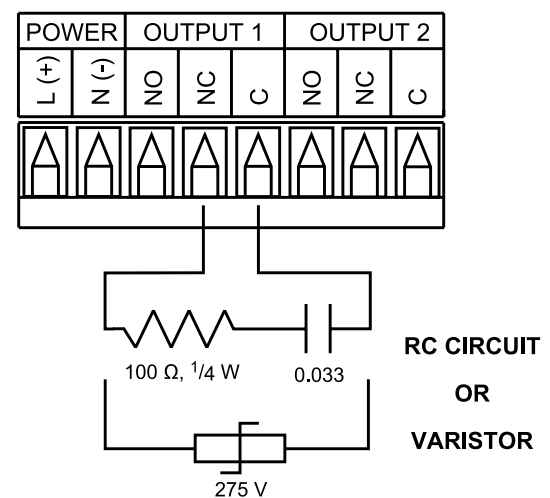

Figure 2.10
Note If you have an inductive load connected between Common (C) and Normally Closed (NC) contacts of the mechanical relays and you want to protect them from the rush current during the switching period, you have to connect an external snubber circuit between Common (C) and Normally Closed (NC) contacts as indicated in Figure 2.10.